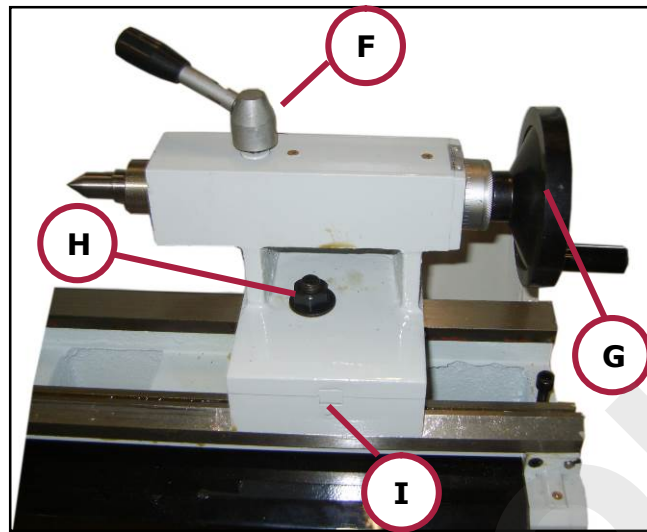

Figure 17 – Lever and handwheel of the tailstock.
On the tailstock there are four manual controls (levers, handwheels and screws) which allow fine adjustments and feed adjustments (see Figure 17).
3. If necessary, secure the opposite end of the workpiece using the tailstock. For this purpose, adjust the position of the tailstock and the quill, using the lever, and the appropriate fastening handwheel (see Figure 17).